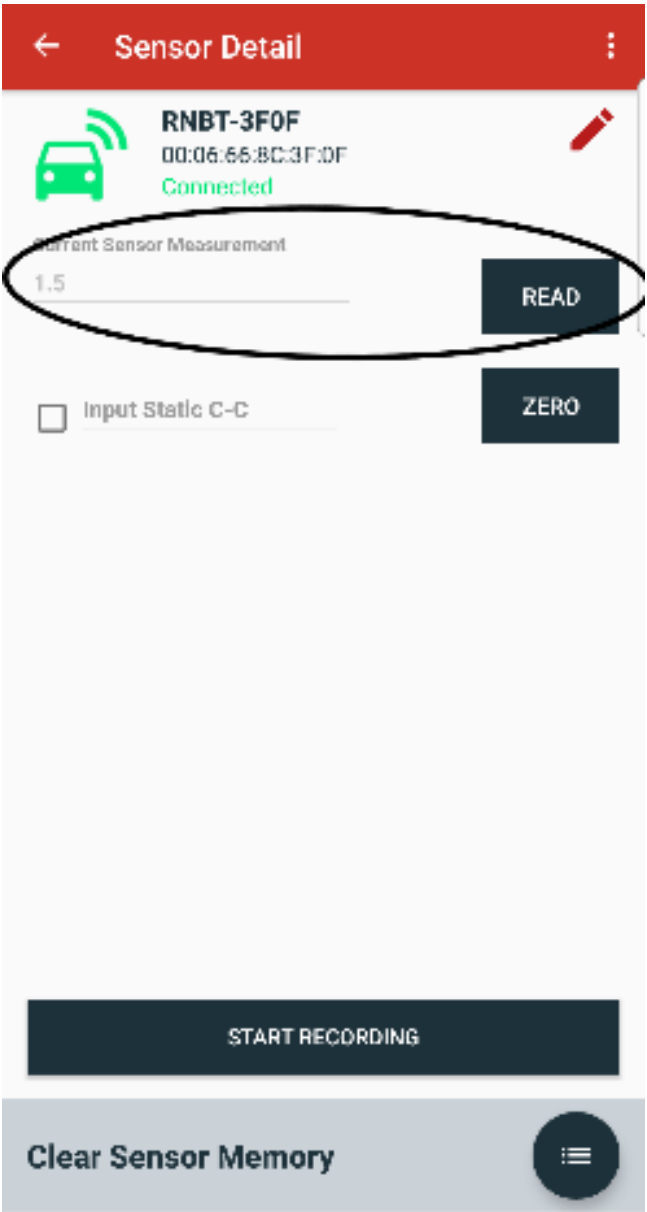

Figure 17: Read button and sensor measurement
- 2. The value of the string distance can be viewed in the Sensor Detail menu by pressing the “READ” button shown in Figure 17.